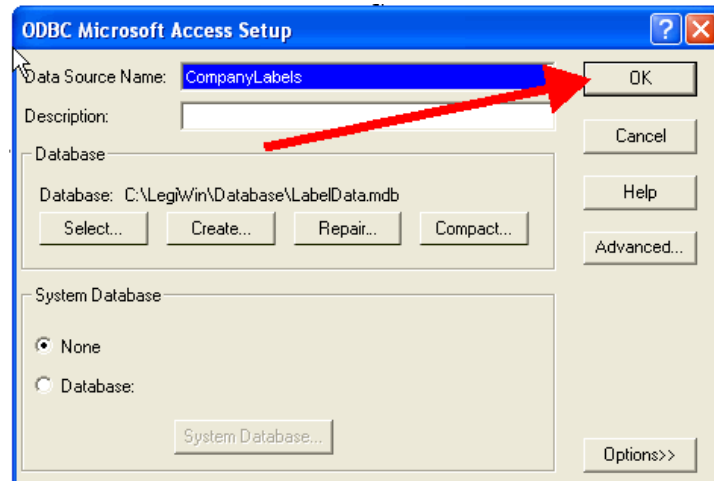

Figure 2-15
2.5.8. Click [OK].(Figure 2-15)